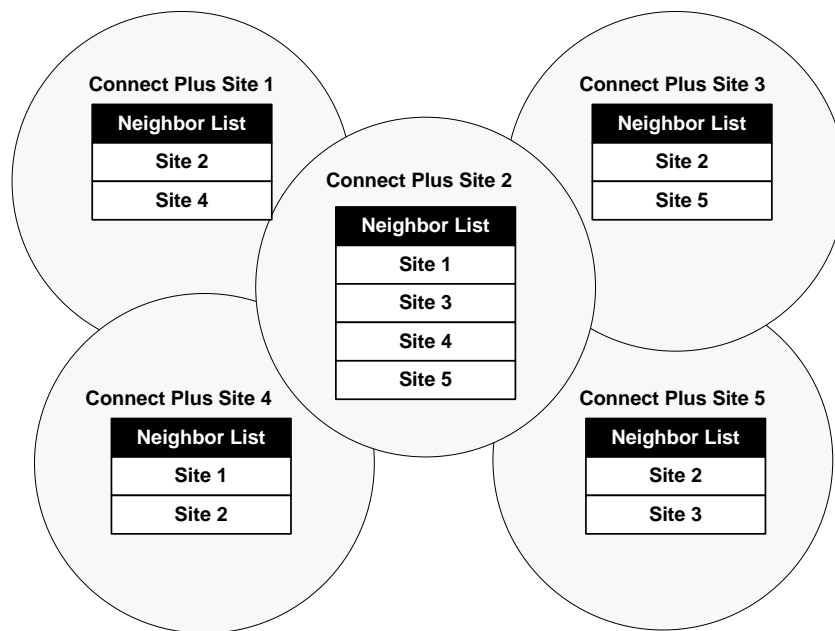

Figure 2-5 Connect Plus Neighbor List Example
- **Neighbor List Collection:** When a Connect Plus SU is registered to a site, it collects the “Neighbor List” that is transmitted by the site’s control channel. The Neighbor List consists of up to 5 site numbers for sites that are RF-adjacent to the site transmitting the Neighbor List. This Neighbor List is configured by using the XRC 9000 Network Manager Software. When a Connect Plus SU loses signal from a site, it first searches the “Preferred” or “Last Registered” site (as determined through Connect Plus CPS programming). If an acceptable signal is not found, the SU proceeds to search the Control Channels of the most recently collected Neighbor List. In doing so, the sites are searched in the order that they configured via the Network Manager. The Connect Plus SU can store Neighbor Lists collected from up to 10 different Connect Plus sites. The lists are searched in “last collected, first searched order”. If the SU should ever collect Neighbor Lists from more than 10 different sites, the oldest Neighbor List will “fall out” to make room for the most-recently collected Neighbor List. An example of a Neighbor List configuration is shown in Figure 2-5.